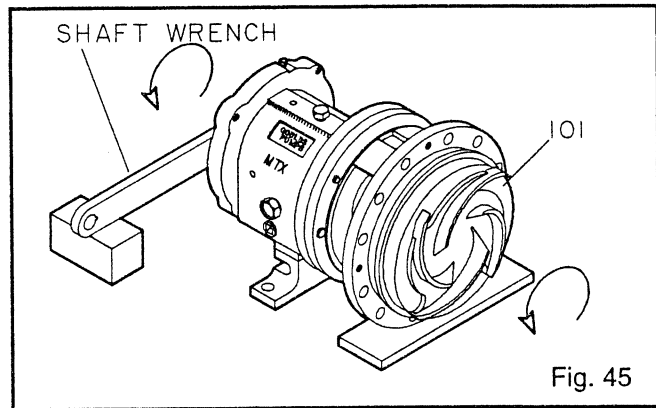

Fig. 45
1. Slide Goulds shaft wrench (A05107A or A01676A) over the shaft (122) and key.
3. Quickly turn the impeller counterclockwise (viewed from the impeller end of the shaft), impacting the wrench handle on the workbench or a solid block until the impeller loosens (Fig. 45).
3. Slide Goulds shaft wrench (A05107A) over the shaft (122) and key.
5. Quickly turn the impeller counterclockwise (viewed from the impeller end of the shaft), impacting the wrench handle on the workbench or a solid block until the impeller loosens (Fig. 45).